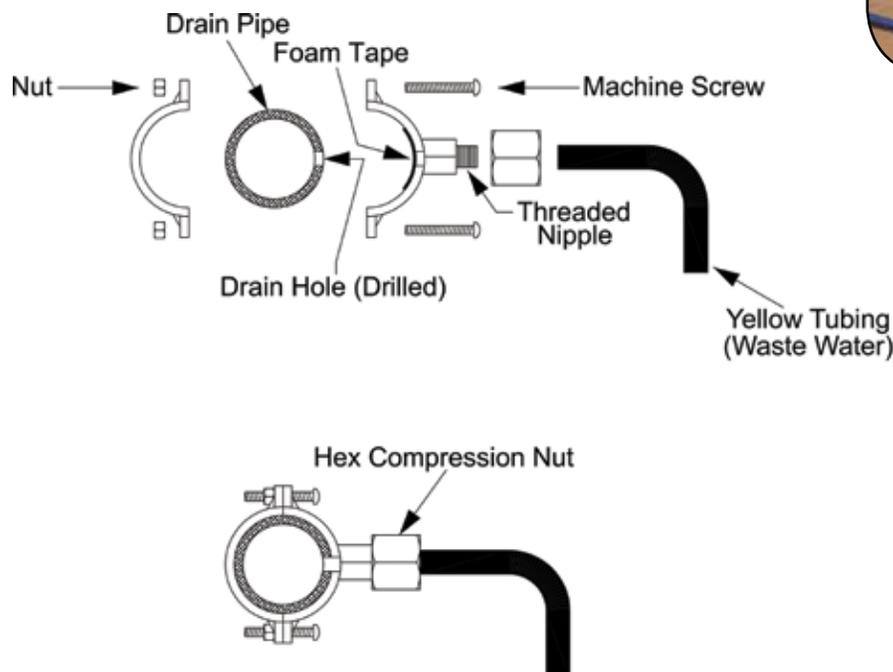

Figure 5: Drain Saddle Assembly Sequence
5. Refer to Figure 5 showing the drain saddle assembly sequence. Press nuts in back half of drain saddle assembly.